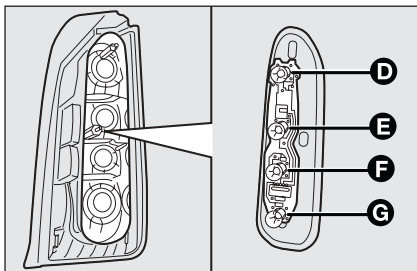

fig. 29
- remove bulbs **D - E - F - G**-fig. 29 lightly pushing them and turning them counter-clockwise;